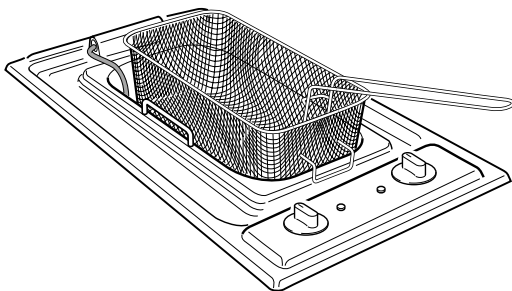

Fig. 18
- As soon as the food is cooked, take out the basket and rest it on the support until all the excess oil has drained off (fig. 18).
- To position the cover correctly fold the basket handle inwards (fig. 18 and 19 - arrow 'A').